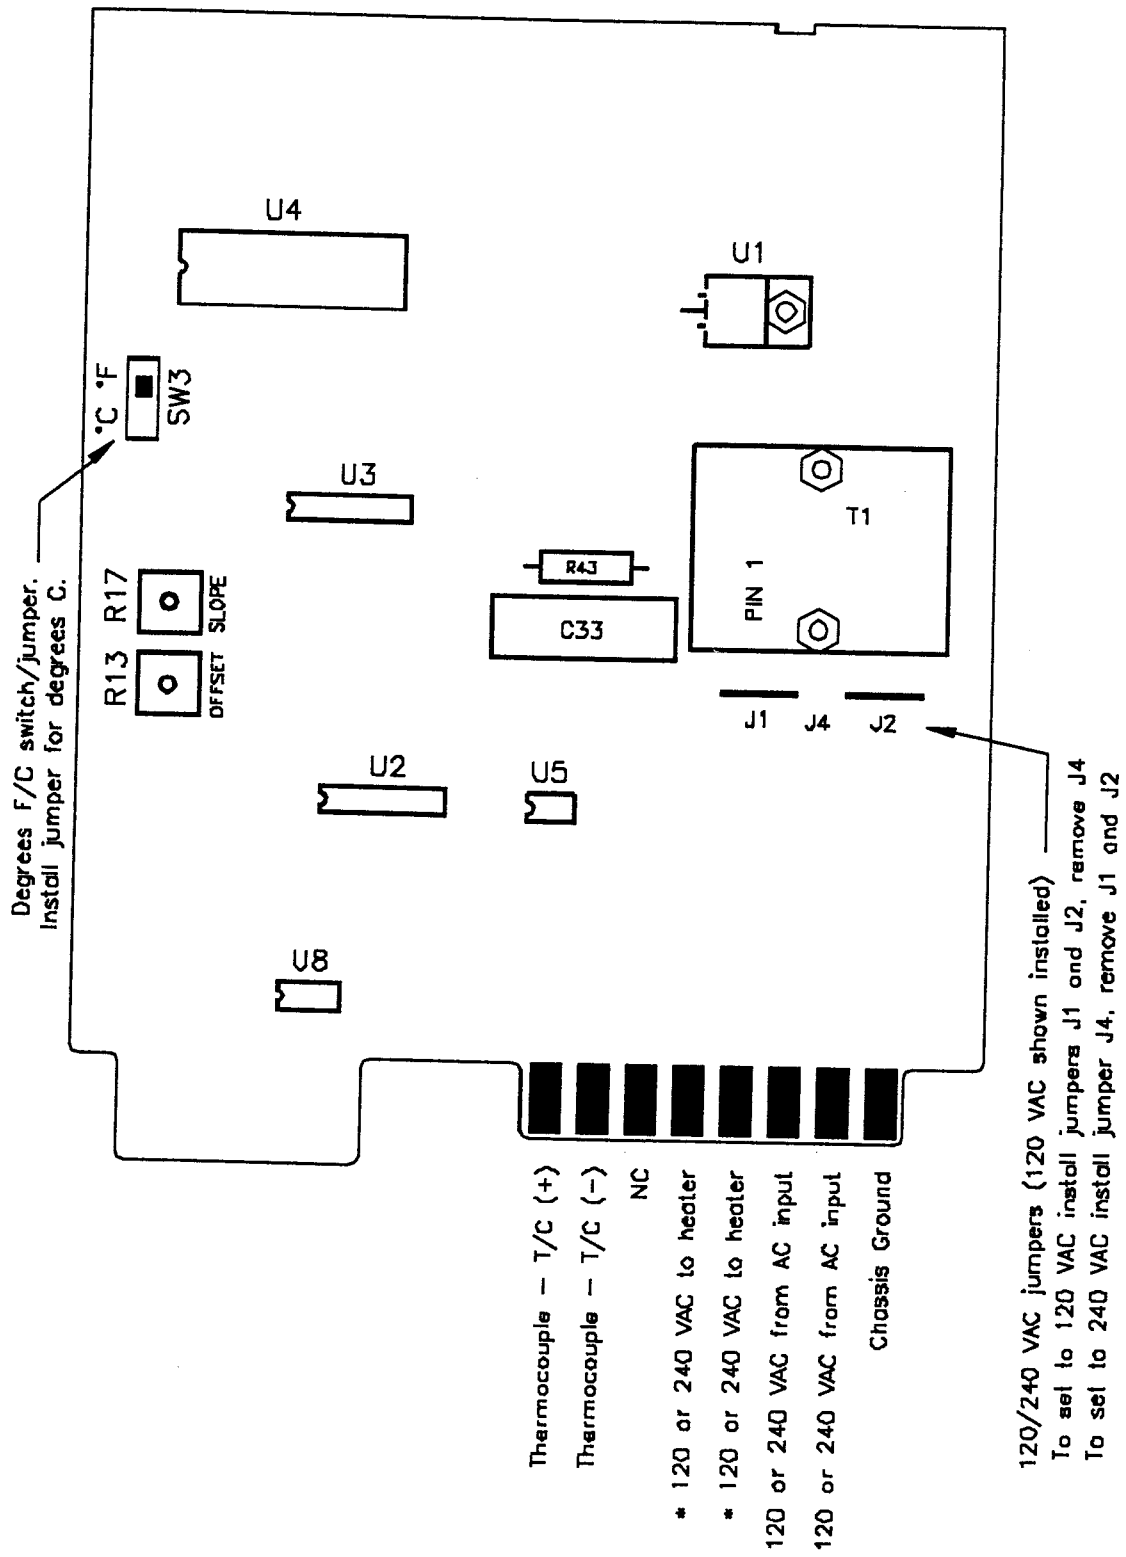

Figure 5. - Component layout, SSH-10-02 main board
7. °F/°C Indicator: Illuminates when degrees C mode is selected. Mode is selected by switch SW3, (see figure 5).
2. **POWER CORD:** Connect the line voltage to operate the unit as follows: Connect the Blue wire to Line 1 (L1), the Brown wire to Line 2 (L2), the Green/Yellow wire to Earth Ground. **BE SURE TO CHECK THE VOLTAGE SELECT JUMPERS, J1, J2, J4, SHOWN IN FIGURE 5 BEFORE CONNECTING POWER TO UNIT.**